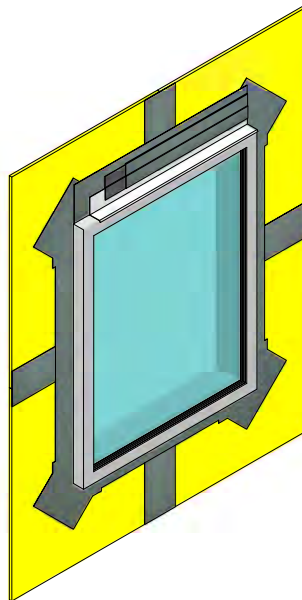

Figure 16
12. Install required accessories such as window head flashing. Apply ACROSTOP-R over the accessory and onto areas which will receive SHEATHING FABRIC. Cut SHEATHING FABRIC to desired size. Apply additional ACROSTOP-R onto the SHEATHING FABRIC to embed. If necessary, apply a second coat. (See Figure 16)